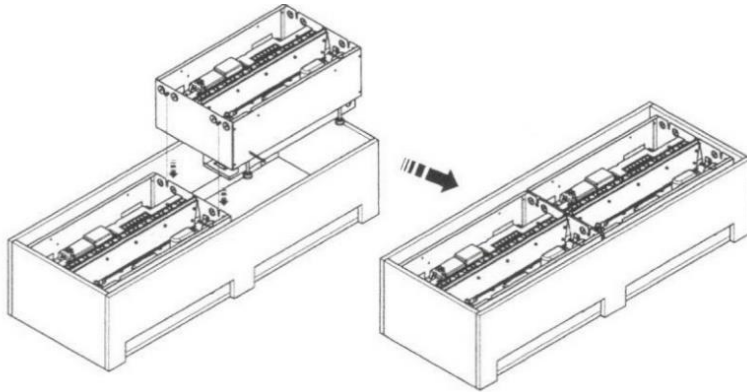

Fig. 20
2. Fit the second product beside the first product, ensuring the protruding screws of the second product engage with slots of the first product (Fig. 20).